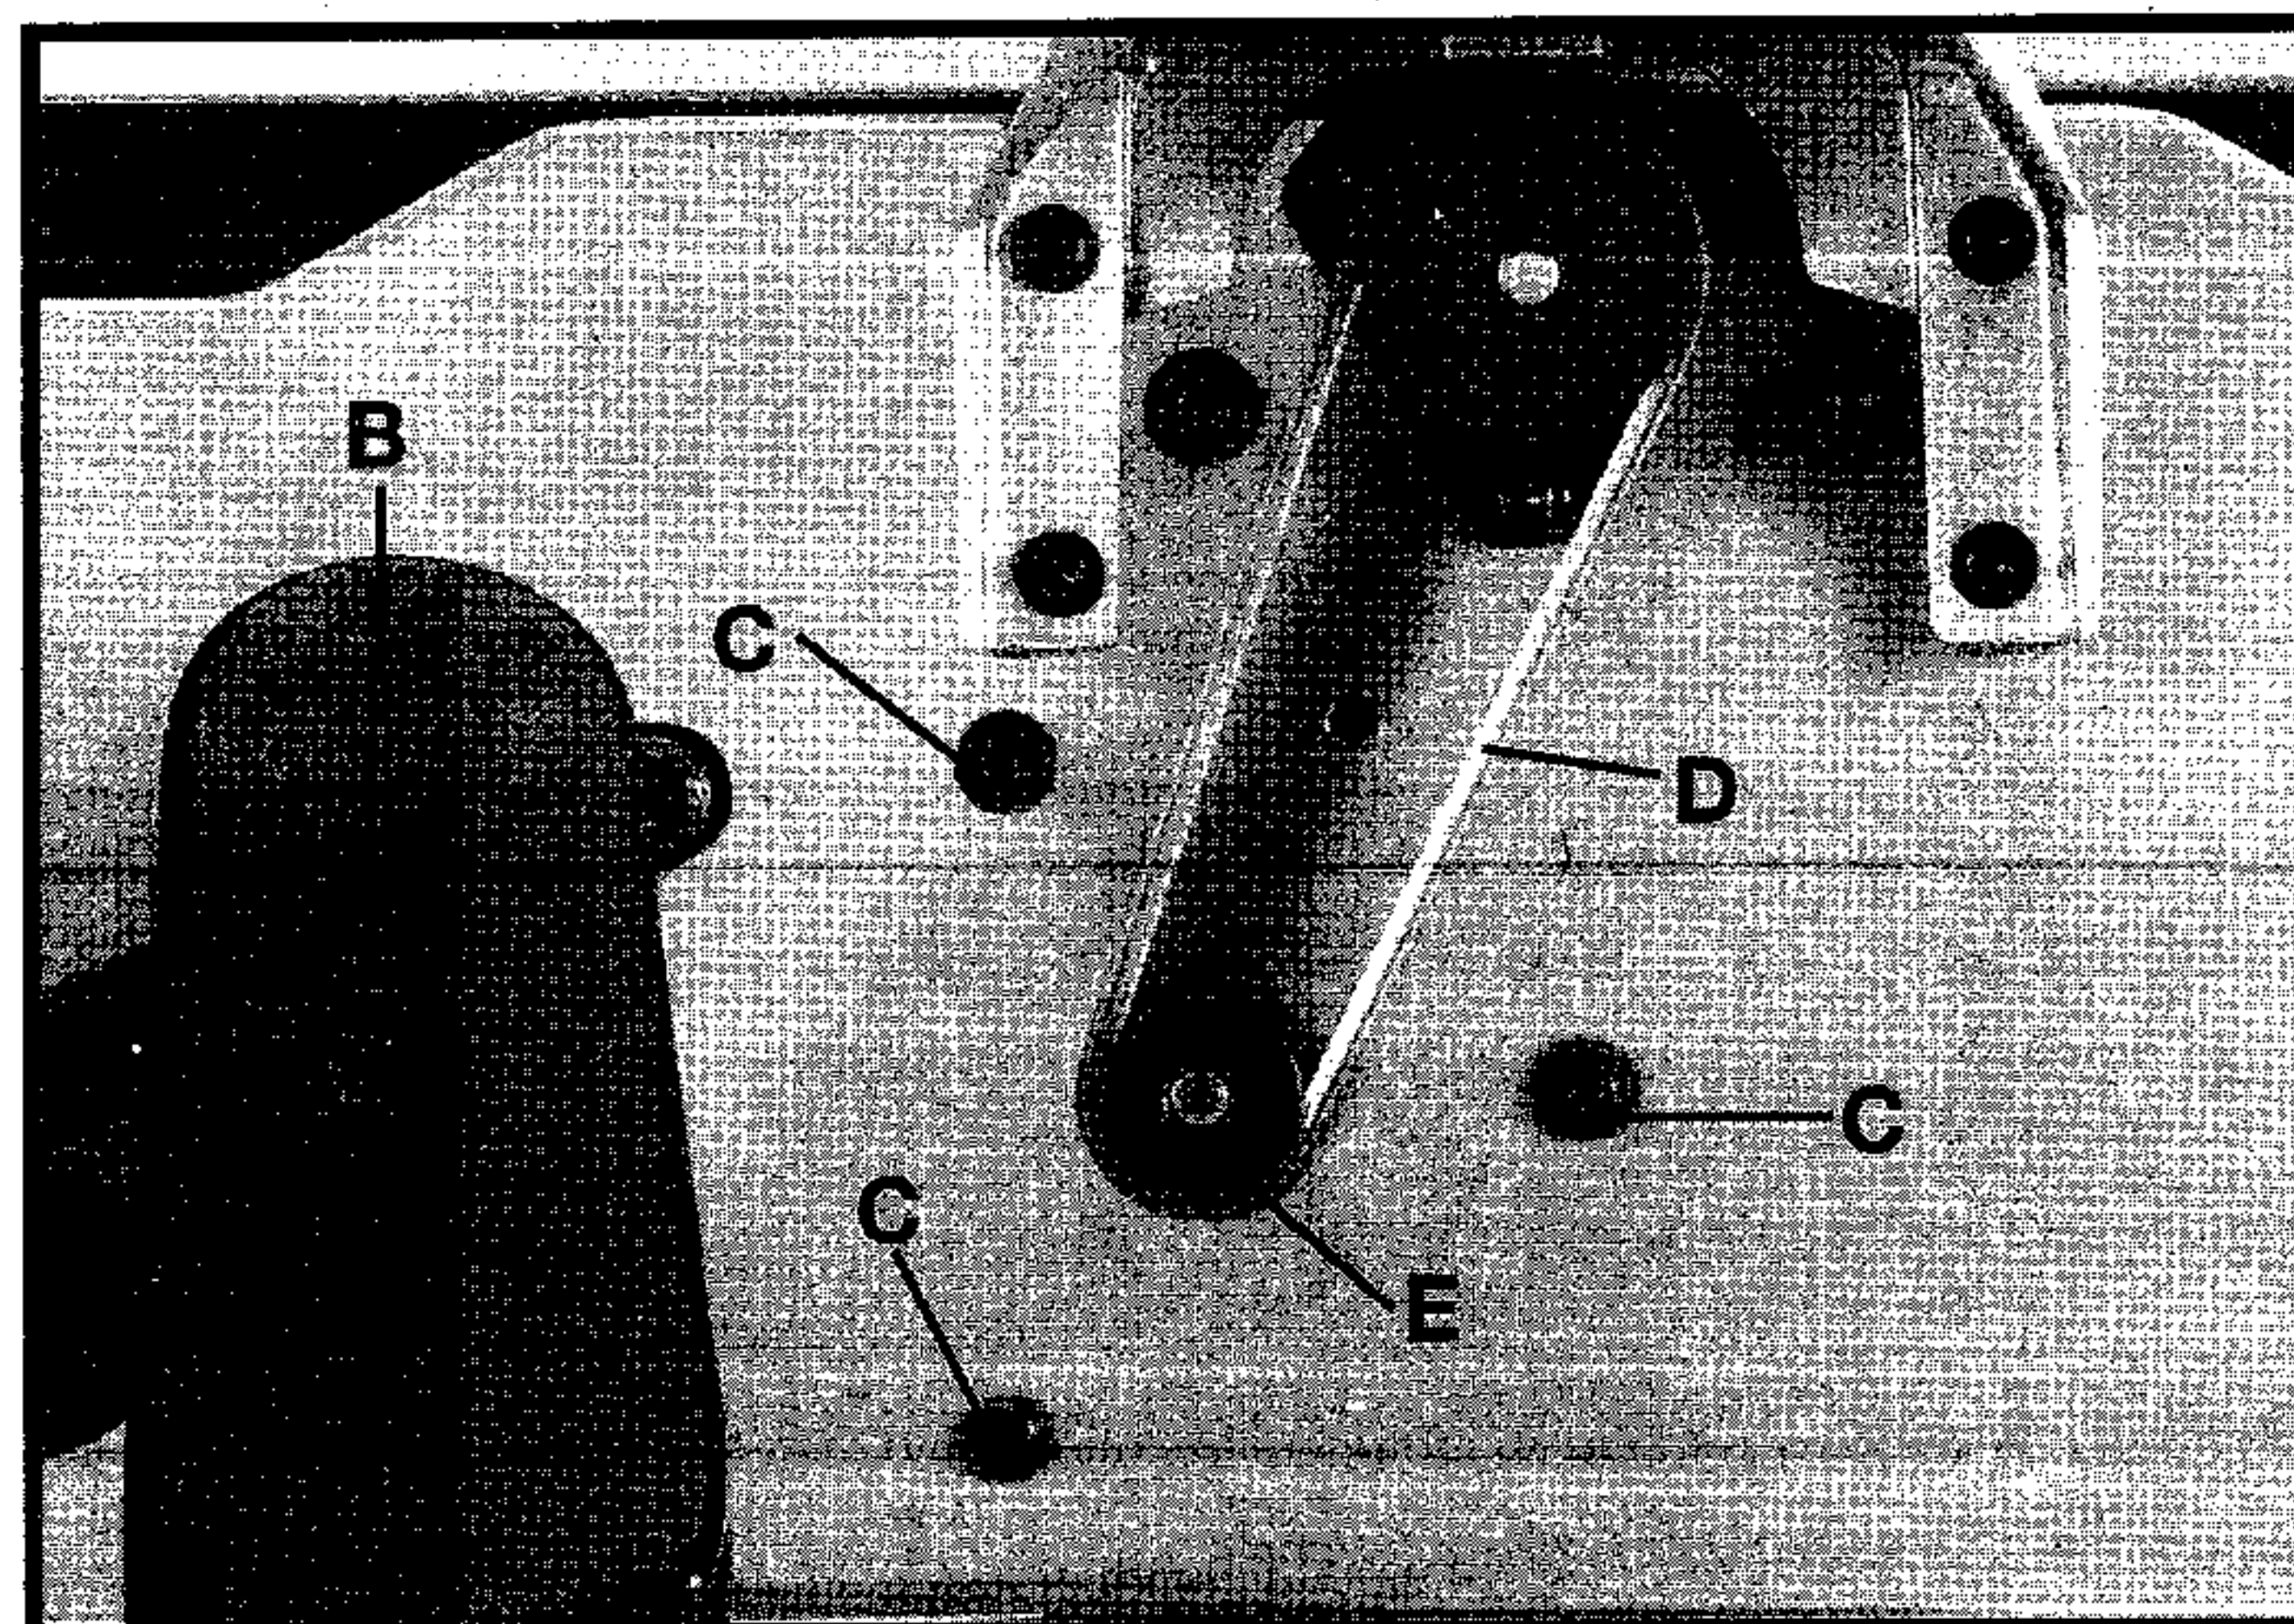

Fig. 45
2. Loosen three screws (C) Fig. 45, to release belt tension and remove belt (D) from pulleys.
3. Assemble new belt to the cutterhead and motor pulleys. Press down on motor pulley (E) Fig. 45, to tension belt and tighten three screws (C).